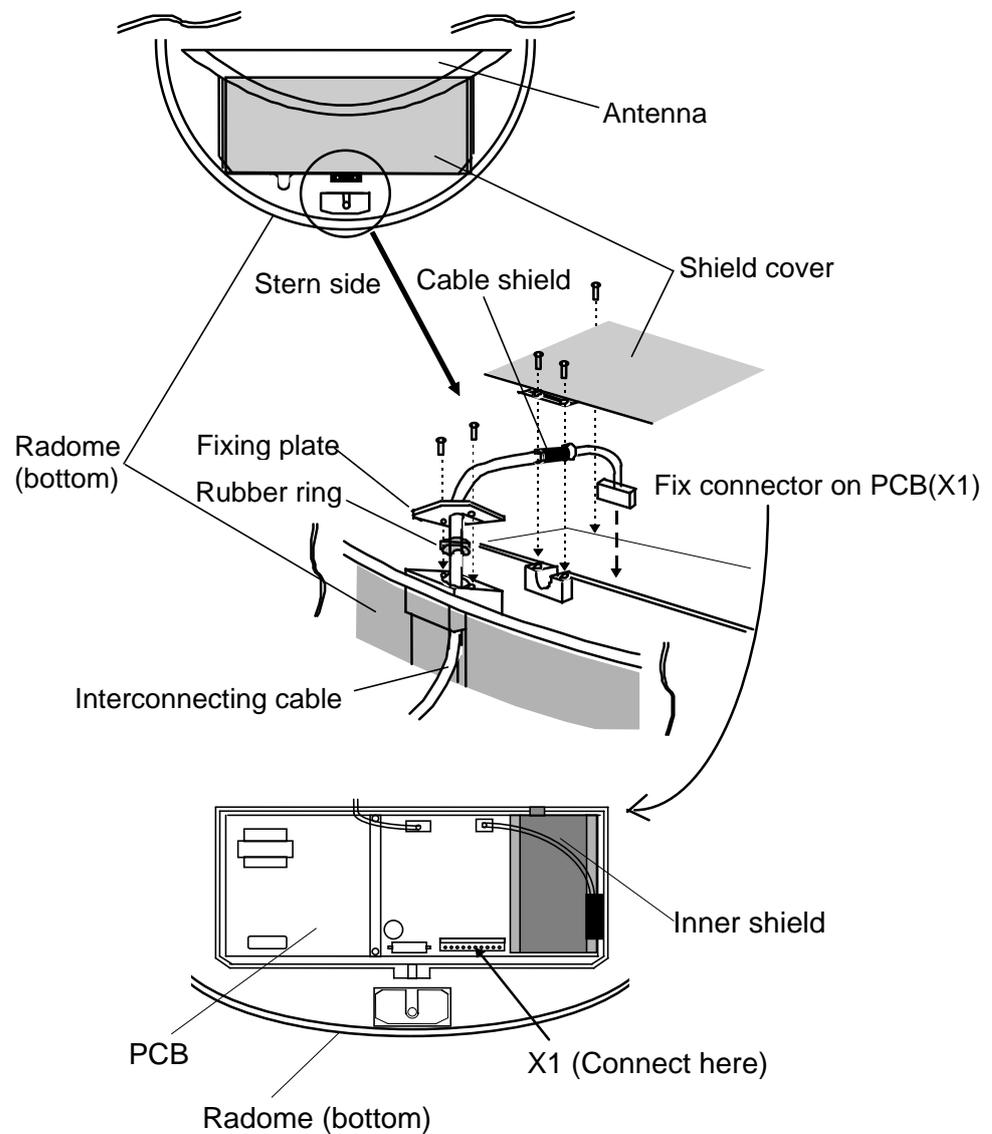

Fig.3-8-1 Fitting interconnecting cable (MDC-721)
3.7.0 Interconnecting cable (MDC-721 Radome scanner) (See Fig.3-8-1)